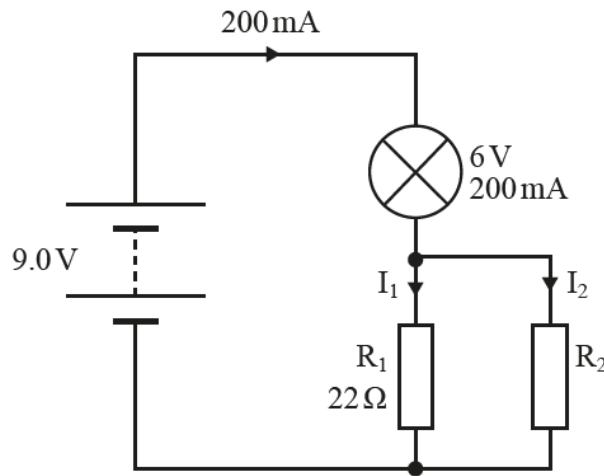

Fig. 1
- 1 The circuit diagram in Fig. 1 shows a circuit for operating a lamp at 6.0 V, 200 mA from a 9.0 V battery of negligible internal resistance.
- (g) Draw **on** Fig. 1 to show how a voltmeter should be connected to measure the terminal voltage of the battery.